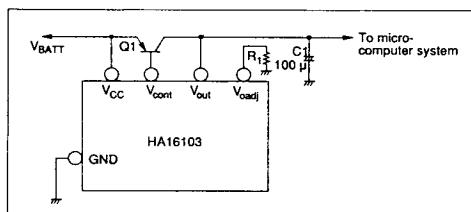

Figure 1 Fine Adjustment Circuit of Output Voltage
- Figure 1 shows the fine adjustment circuit of the output circuit. Select the resistor R1 as shown in equation 1.